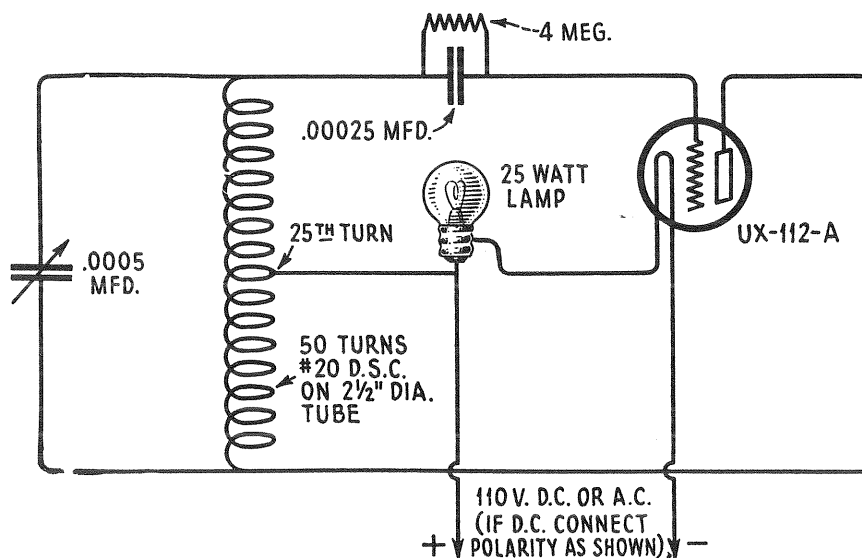

Figure 14—Socket powered modulated R.F. oscillator
- A modulated oscillator giving signals at 1,400 and 600 Kilocycles. Figure 14 shows the constants and circuit diagram of an oscillator satisfactory for this purpose which may be operated entirely from the house lighting circuit.